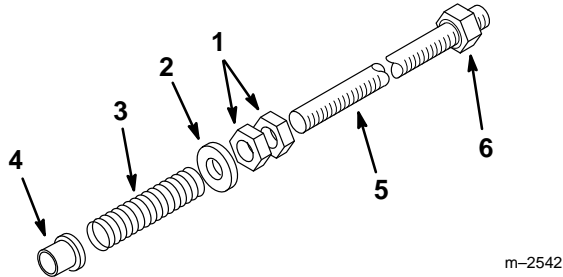

Figure 5
4. Thread two (2) 1/2" jam nuts approximately 9" (22.8 cm) up on each adjusting shaft (Fig. 5).
5. Slide a 1/2" spacer, spring and bushing onto each adjusting shaft. Make sure to install the bushing with the flange end against the spring (Fig. 5).